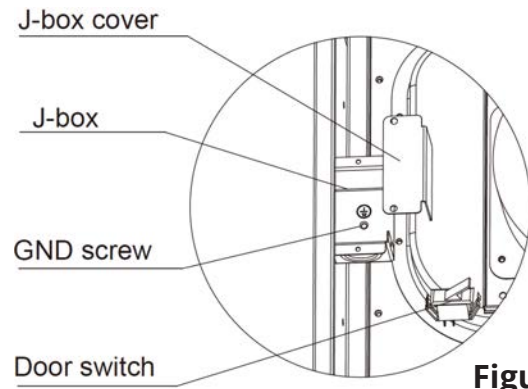

Figure 6.1
4. Remove and save two screws holding J-Box. (See Fig. 6.1.)